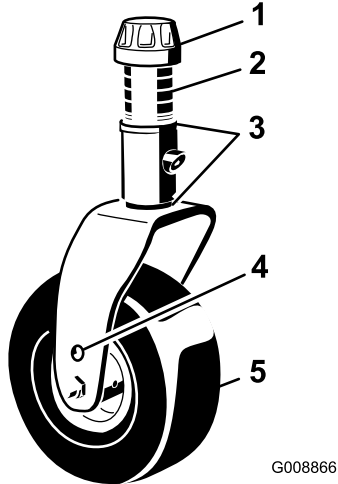
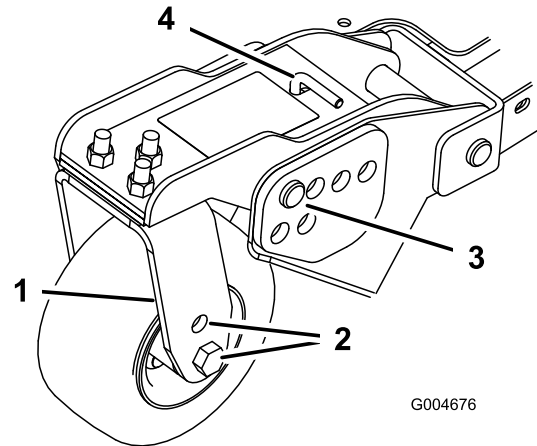
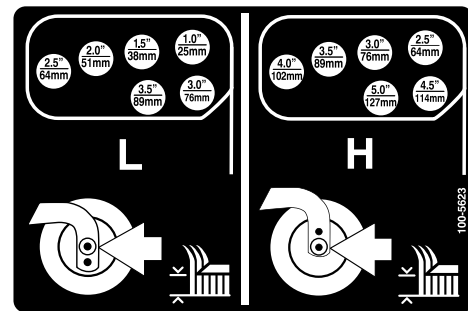

Figure 20
Figure 22
Figure 23
1. Position the castor wheel axles in the same holes in all of the castor forks (Figure 20 and Figure 22). Refer to the following chart to determine the correct hole for the setting.
- Remove the tensioning cap from the spindle shaft (Figure 20) and slide the spindle out of castor arm. Put the two shims (1/8 inch [3 mm]) onto spindle shaft as they were originally installed. These shims are required to achieve a level across the entire width of the cutting units. Slide the appropriate number of 1/2 inch spacers onto the spindle shaft to get the desired height-of-cut; then slide the washer onto the shaft.
- Remove the hairpin cotter and clevis pins from the castor pivot arms (Figure 22).
- Rotate tension rod to raise or lower pivot arm until holes are aligned with selected height-of-cut bracket holes in the cutting unit frame (Figure 22 and Figure 23).